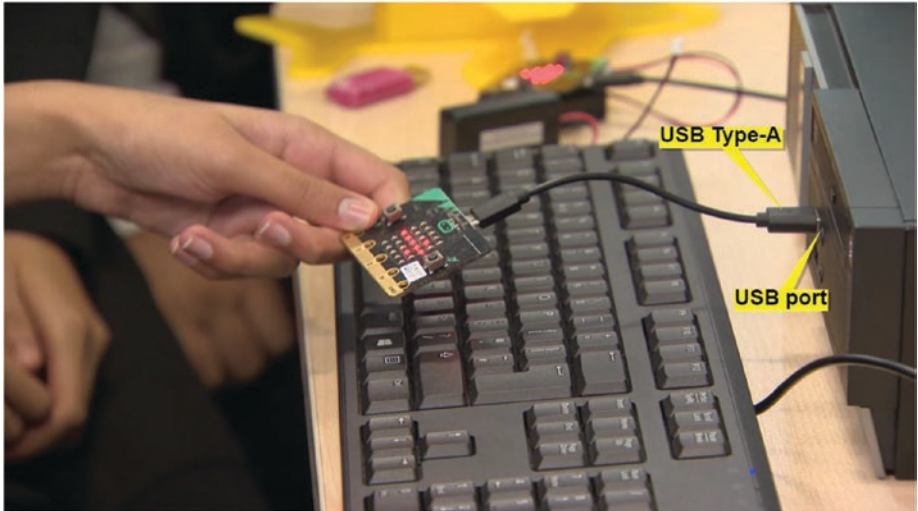

Figure 1-16. Connecting the Type-A connector to a USB port (image courtesy of Micro:bit Foundation)
2. Then, connect the Type-A connector of the USB cable to the USB port of your computer (see Figure 1-16).